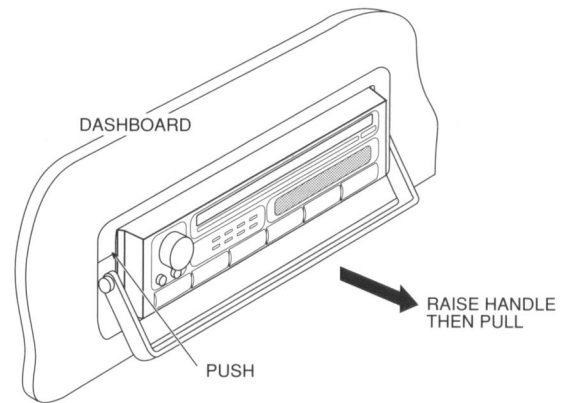

Figure 11. Removing the CD-303 chassis from the Mounting Sleeve.
9. You can remove the chassis by pushing the left side, raising the handle, and then pulling on it, as shown in Figure 11.